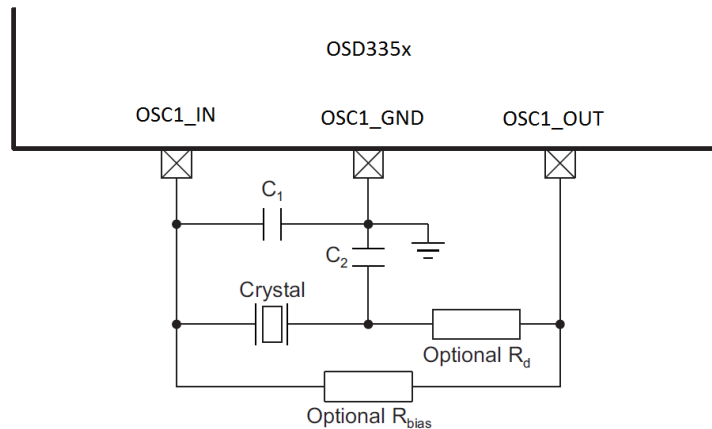

Figure 47 Crystal Oscillator circuit for OSC1
- The crystal oscillator circuit for OSC1 is shown in **Figure 47** and is the same as the oscillator circuit for OSC0. For the reference design, we do not need either R_{bias} or R_d since OSC1 has an internal resistor. However, as discussed above, we have placed a footprint for R_{bias} but not for R_d to give us the flexibility to adjust the crystal performance without increasing the design cost. For recommended crystal circuit component values for OSC1, check ***OSC1 Crystal Circuit Requirements*** table in the ***AM335x datasheet***.